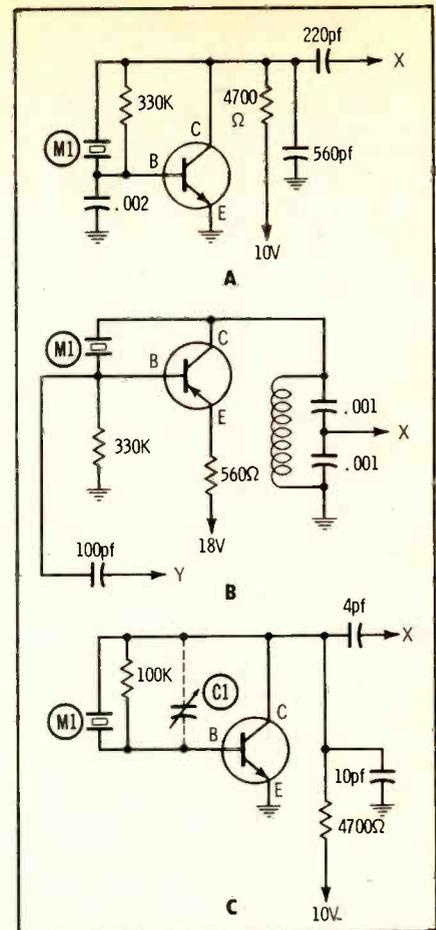

Fig. 22. Three crystal-controlled transistor oscillators of the Pierce variety.
Fig. 22 shows three common versions found in modern signal generators. All are variations of the Pierce circuit and use both PNP and NPN transistors. Feedback is from collector to base, controlled by the natural frequency of the oscillator crystal. With other transistors, different component values might be used. Output (X) is taken from capacitive dividers for impedance-matching purposes. In Fig. 22B, the capacitive divider is part of a tuned output tank; tuned tanks are used only occasionally in crystal-controlled circuits of this direct-drive variety (on the other hand, overtone crystal oscillators, which operate on the second or third harmonic of a crystal, regularly use a tuned collector tank to assure stability at the overtone frequency). One other feature of the circuit in Fig. 22B is the extra output; primary output X is fed to down-counting multivibrators, while secondary output Y feeds a vertical-line-forming stage.